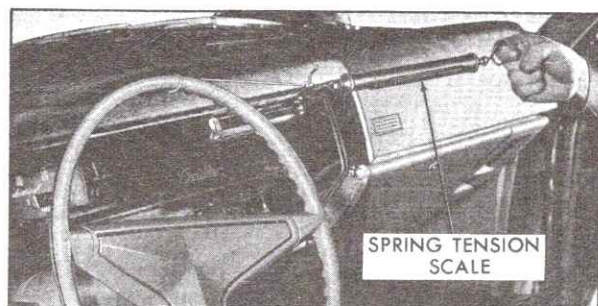

Fig. 9-10 Checking "Off-Center" Pull of Wheel
3. Turn steering wheel just away from stops, and use a spring tension scale with a piece of tag wire or string to measure pull on steering wheel through an arc not exceeding one inch. Fig. 9-10. Total pull should be between 4 and 12 ounces (thrust bearing and friction).